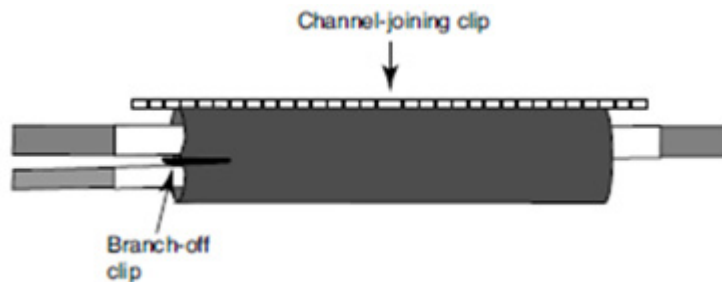

Figure 12
26. If there are 2 cables entering from one side, install the branch clip over the sleeve between the 2 cables. Ensure the 2 cables are parallel and secure with aluminum tape or a tie wrap. (Figure 12)